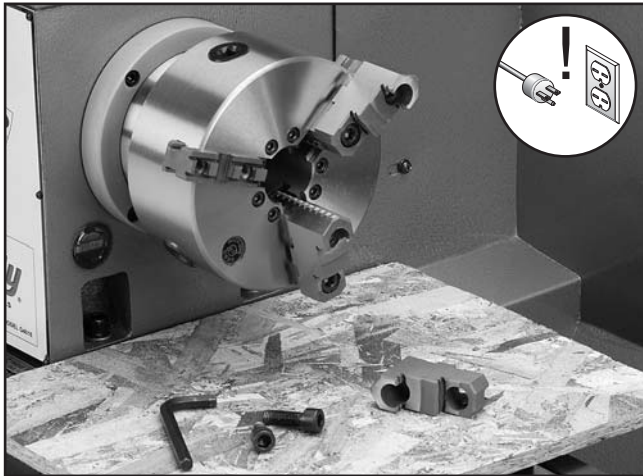

Figure 27. Reversing the chuck jaws.
3. Rotate the jaw 180° and replace the cap screws. Make sure the longer cap screw remains in the thicker part of the jaw. Repeat with the remaining jaws (**Figure 27**).